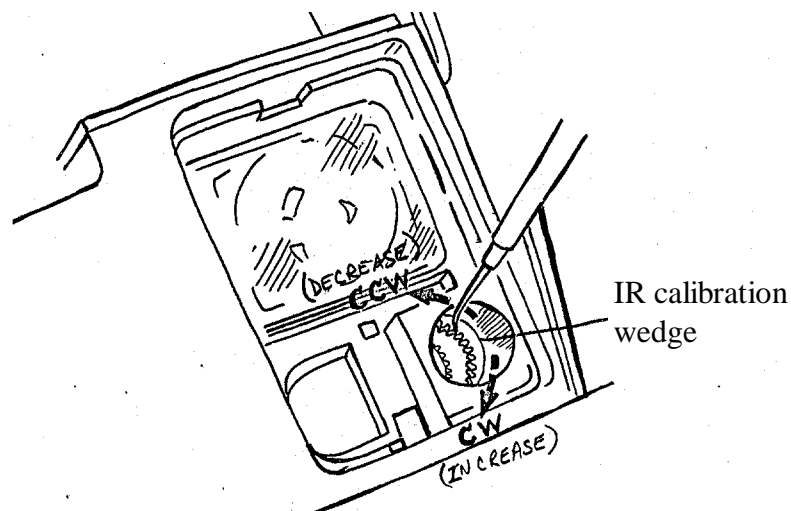

Fig. 12 Adjusting IR Calibration Wedge
- b. Using a dental pick, narrow-bladed screwdriver or other suitable tool, adjust the IR calibration wedge. Move the IR calibration wedge counterclockwise (CCW) to decrease the reading or clockwise (CW) to increase the reading (Fig. 12).